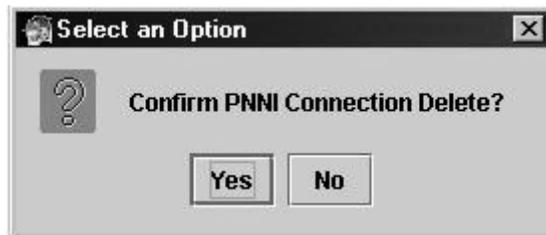

Figure 8-4: Confirm Delete PNNI Connection Dialog
2. Click **DELETE**. The Select an Option dialog displays. See Figure 8-4.